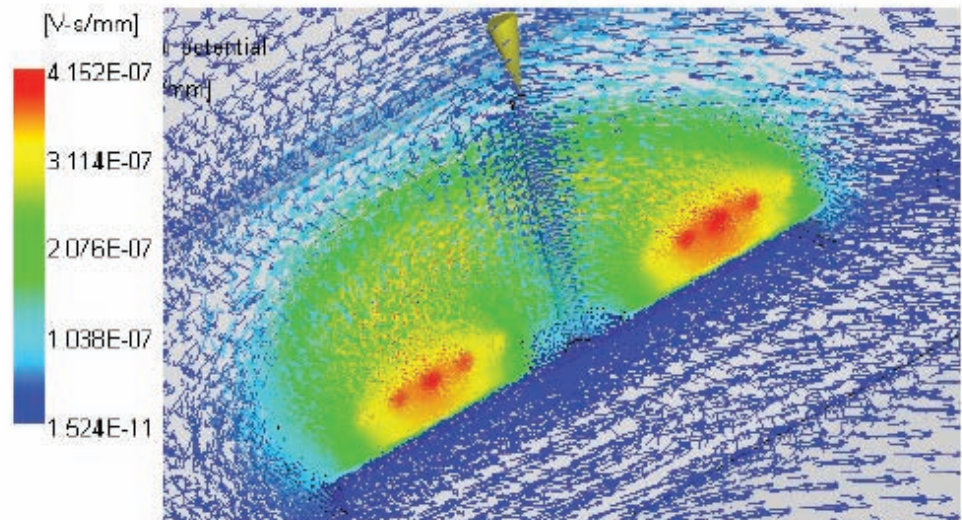

Figure 9: Magnetic vector potential in mold.
An intermediate result is the magnetic vector potential is which given by equation (21). Equation (21) is the principle differential equation solved for electromagnetic induction heating. The magnetic flux density, induced current and ultimately the joule heat are derived from the solution of this equation. **Figure 9** is a plot of the magnetic vector potential in the mold, mold insert combination.